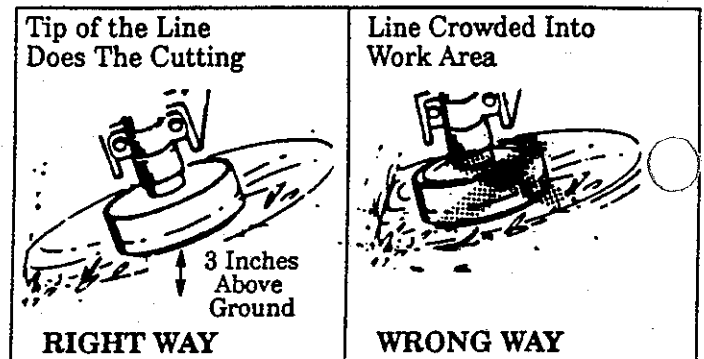

Figure 11
- The tip of the line does the cutting. You will achieve the best performance and minimum line wear by not crowding the line into the cutting area. The right and wrong way are shown in Figure 11.